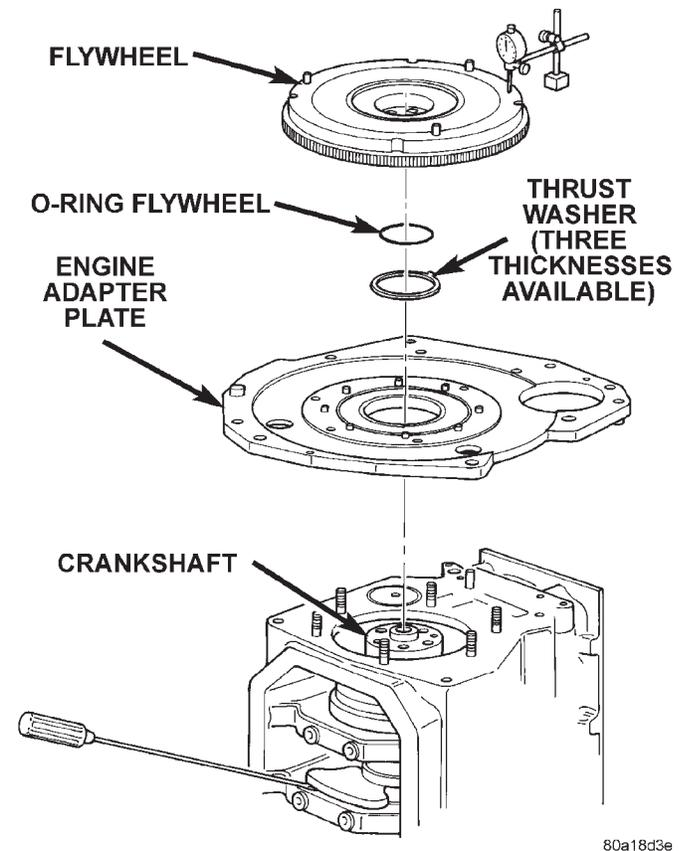

Fig. 57 Measuring Crankshaft End Play
(12) Install 2 flywheel bolts, 180° apart, and tighten bolts to 20 N·m plus 60° (15 ft. lbs.) plus 60°.
(13) Attach dial indicator to engine block.
(14) Move crankshaft toward front of engine and zero indicator.
(15) Move crankshaft toward the rear of engine and record measurement.
(16) Subtract specified crankshaft end play from figure obtained. Crankshaft end play 0.08 to 0.21 mm (0.0032 to 0.0083 in.).
(17) Select thrust washers which will give correct end play.
(18) Remove tools and flywheel.
(19) Lubricate thrust washer halves and fit them into the rear main bearing carrier.
(20) To verify correct end play, install 2 flywheel bolts 180° apart, and tighten bolts to 20 N·m plus 60° (15 ft. lbs. plus 60°).
(21) Measure crankshaft end play with a dial gauge. Crankshaft end play should not exceed 0.08-0.21 mm (0.0032 to 0.0083 in.) (Fig. 57). If end clearance exceeds these values install oversize thrust washer.